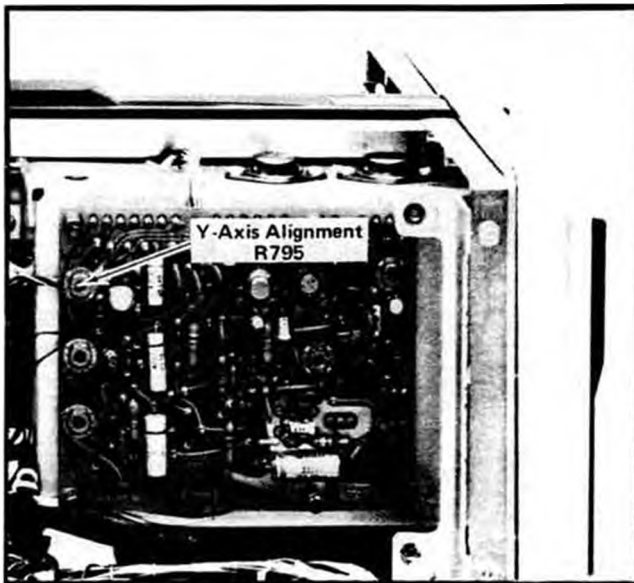

Fig. 5-8. Location of Y Axis Alignment control R795.
e. Position the two traces to the vertical and horizontal centerlines of the CRT graticule. Use the VERT TRACE SEPARATION (B) control to position the horizontal trace and the calibration fixture Position control to position the vertical trace.
g. ADJUST—TRACE ROTATION and Y Axis Alignment R795 (see Fig. 5-8) so the vertical and horizontal traces align with the vertical and horizontal graticule center lines exactly.